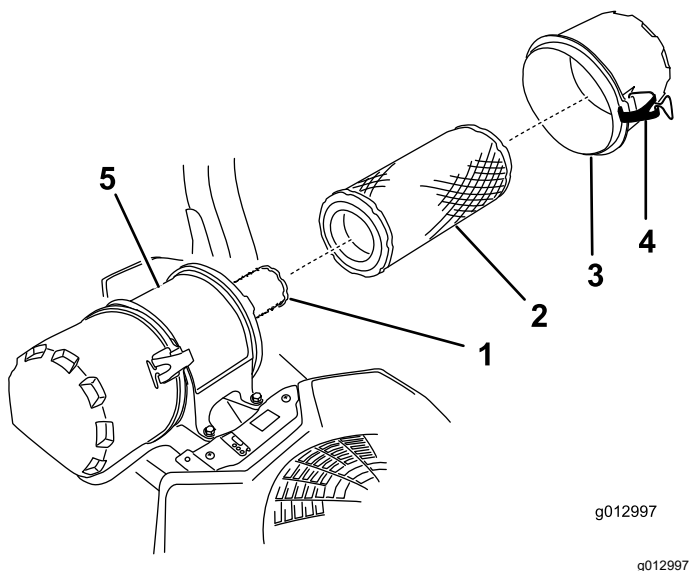

Figure 64
6. Release the latches on the air cleaner and pull the air-cleaner cover off the air-cleaner body (Figure 64).
8. Gently slide the primary filter out of the air-cleaner body (Figure 64).
2. If you are replacing the inner filter, carefully slide it into the filter body (Figure 64).
3. Carefully slide the primary filter over the safety filter (Figure 64).
4. Install the air-cleaner cover and secure the latches (Figure 64).